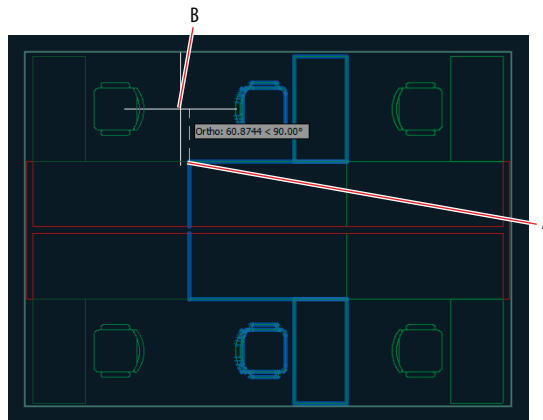

FIGURE 4.26 Mirroring furniture blocks
- Zoom into the furniture system that is missing two desks in the upper-right quadrant of the building. Toggle on Ortho on the status bar if it is not already on. Click the Mirror tool in the Modify panel. Make crossing and individual line selections to select the desks and chairs shown in Figure 4.26, and press Enter. The command line reads as follows: